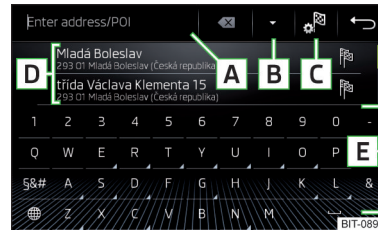
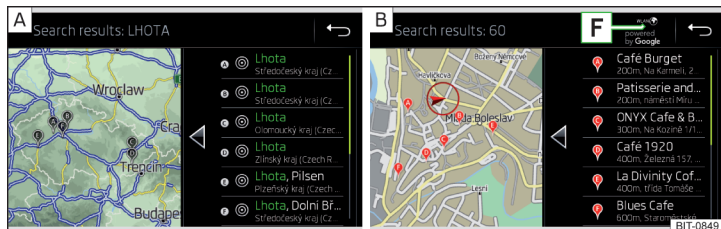

Fig. 227
Fig. 228 List of destinations visited: in the navigation data / online
Function surfaces » Fig. 227 and » Fig. 228
A list of the destinations found is displayed in area **D** » Fig. 227.
- › **or:** Tap the **B** » Fig. 227 function surface.
- P Destinations found in the navigation data » Fig. 228 - **A**.
- P Destinations found online » Fig. 228 - **B**.